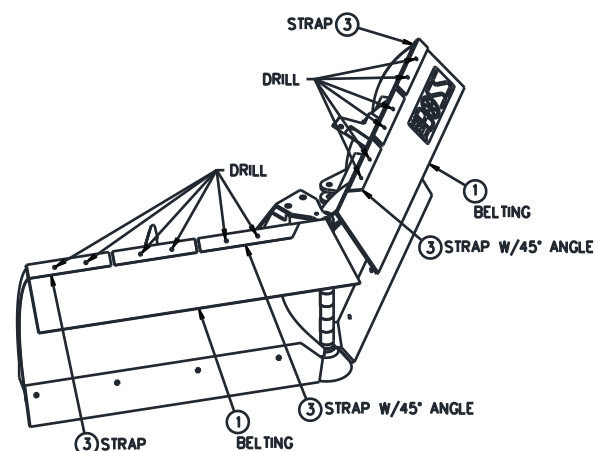

Figure 4. Drilling Locations
3. Using the holes in the Blade Skin as a guide, mark and drill through Belting (1) using a 3/8" drill bit. See Figure 4.